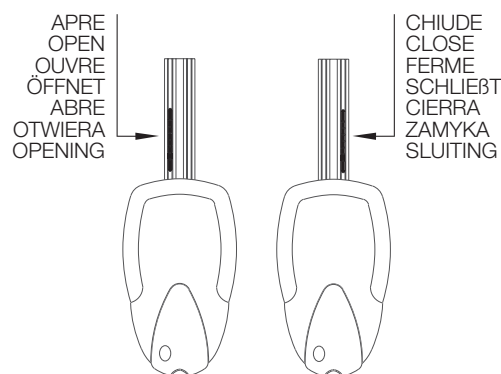

Fig. 25
- Then position the limit stop slides as shown in Fig. 25.